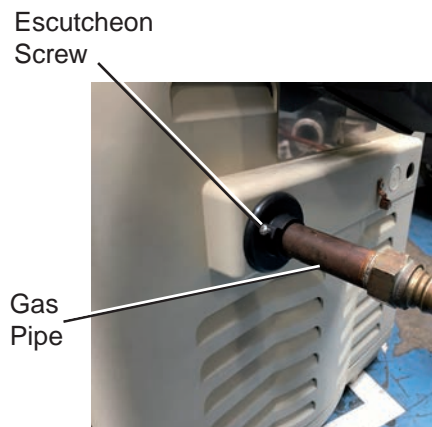

Figure 1. The escutcheon is installed on gas pipe and must cover the circular opening in heater panel.
2. When installing the $\frac{3}{4}$ " pipe into the gas valve, place the gas pipe escutcheon over the pipe so that the larger circle is facing the heater's service panel and the smaller circle with the screw is facing away for the heater service panel (toward the union) as shown in Figure 1.